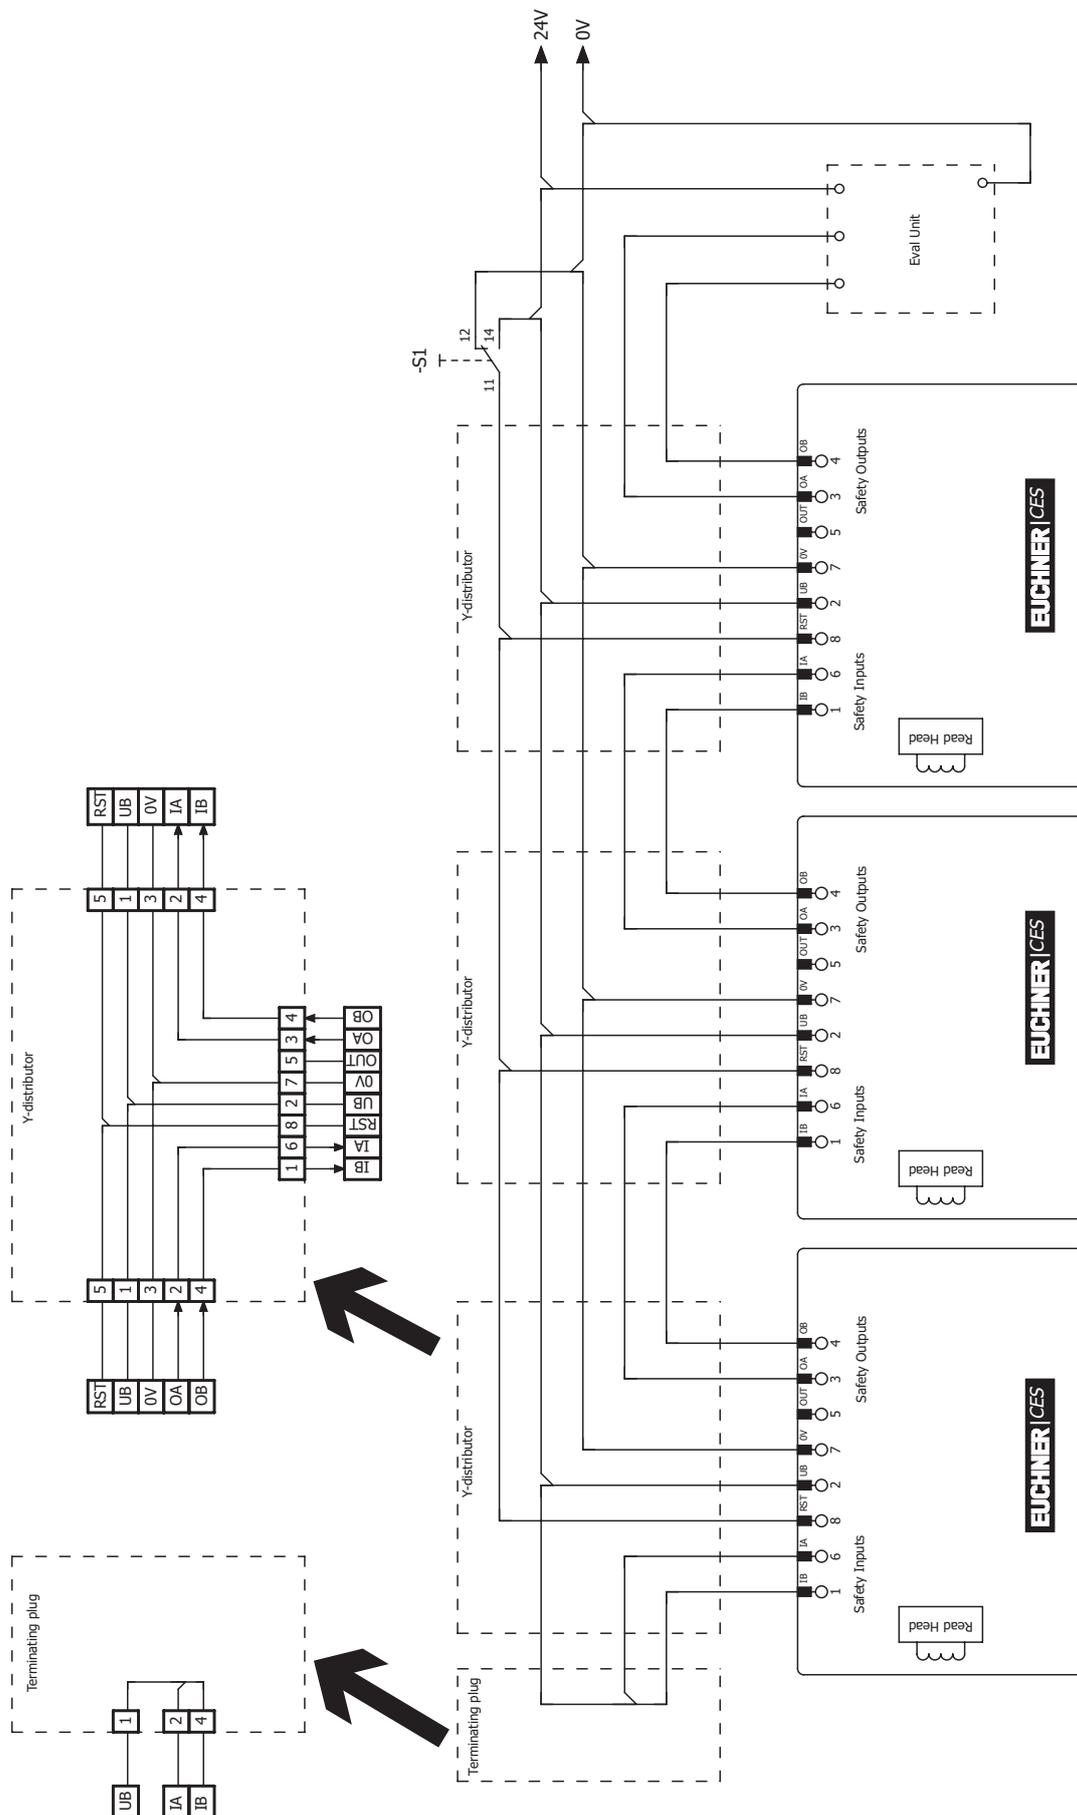

Figure 4: Connection example for series connection with reset and changeover switch
- › A common signal must be used for all switches in the chain. This can be a changeover switch or the output of a control system. A pushbutton is not suitable because the reset must always be connected to GND during operation (see switch S1 in *Figure 4 on page 17*).
The RST input must be connected as shown in *Figure 4 on page 17* to permit this.